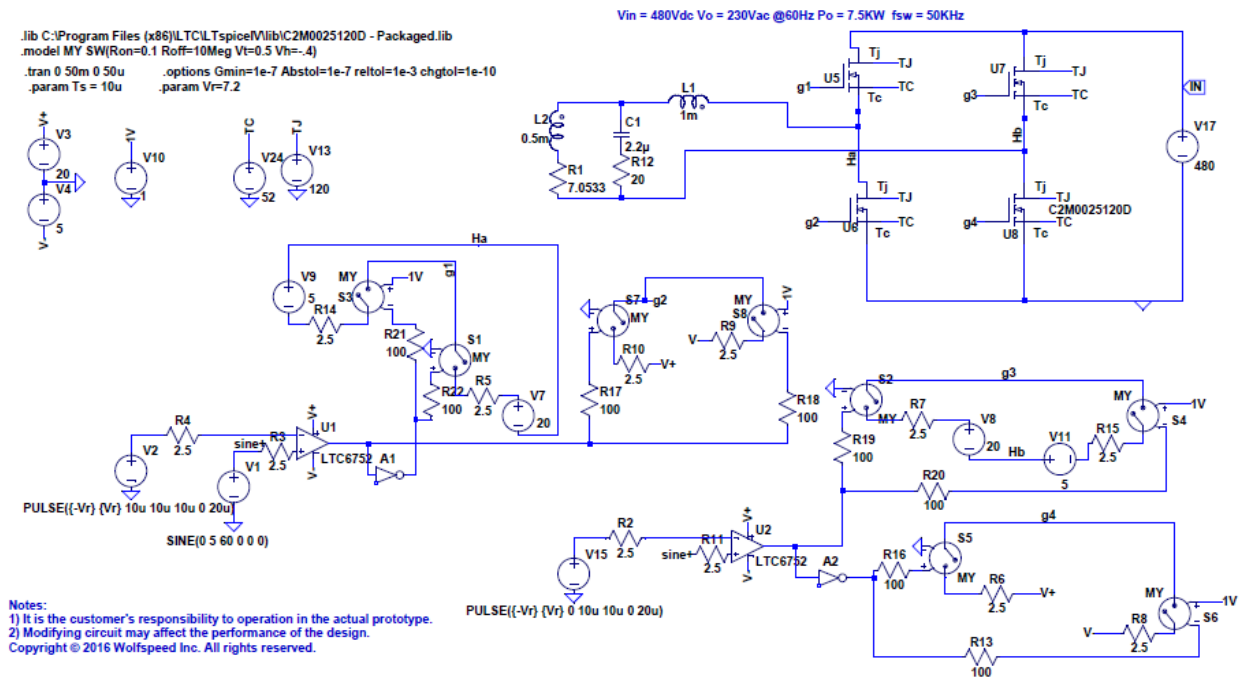

Figure 1: 1phase 2 level Unipolar 7.5KW inverter model circuit
3. The model will be similar to the one shown in figure 1.